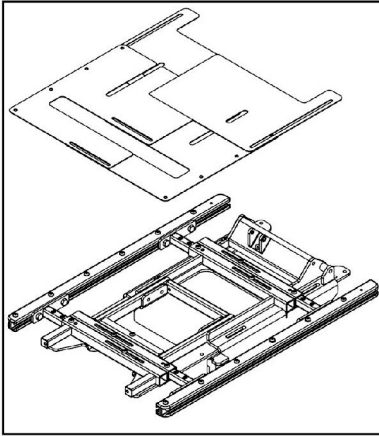

Fig D2-1
(1) Use a hex wrench to remove the screws and remove the 4 seat plates.(Fig D2-1)